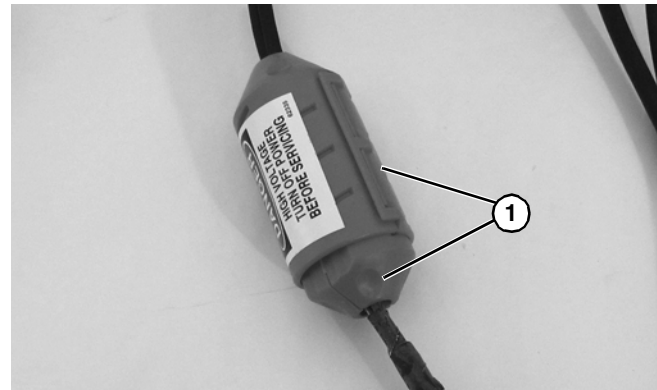

Figure 29
1. Twist covers (Figure 29, item 1) apart.